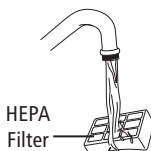

Fig. 24
- 4** Wash the filter under the tap using lukewarm water with the dirty side face down until the water runs clear. (**Fig. 24**)